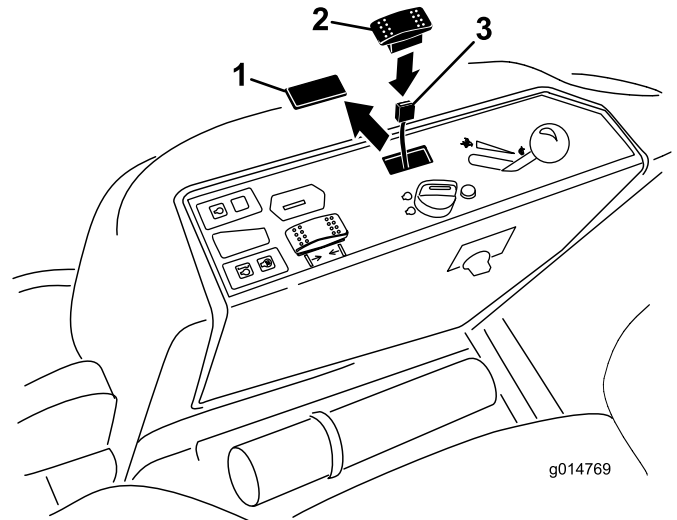

Figure 3
1. Remove the plug from the control panel to expose the switch-mounting hole (Figure 3).
2. Insert the switch into the control-panel hole (Figure 3). Position the switch so that you press it forward.